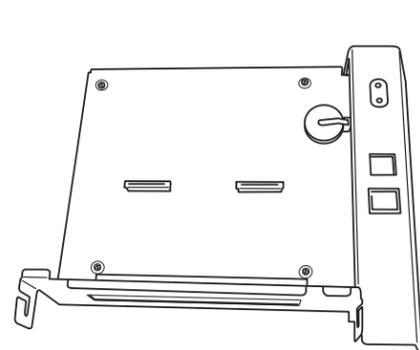

Figure 2.1 Main board
1. Remove all the connectors and the cover, as shown in section 1, above, to reveal the main board (figure 2.1).